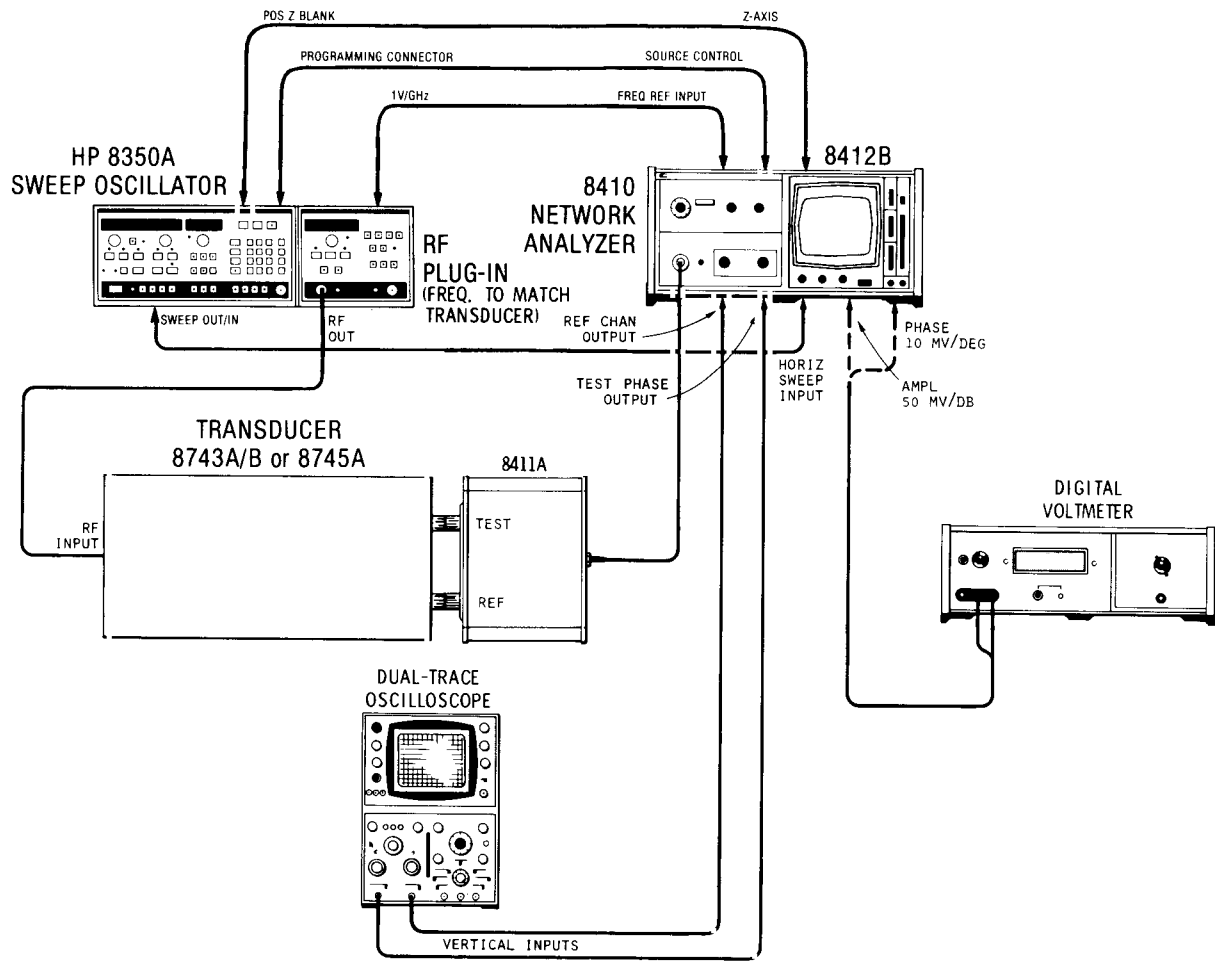

Figure 4-1. Equipment Setup for Performance Test with 8410-Series
- a. Connect equipment as shown in Figure 4-1. Set sweep oscillator for swept mode over the narrowest band possible. Set the 8410 AMPL VERNIER to midrange. Adjust 8410 SWEEP STABILITY control and sweep oscillator RF output for REF CHANNEL meter indication in the middle of the OPERATE range.